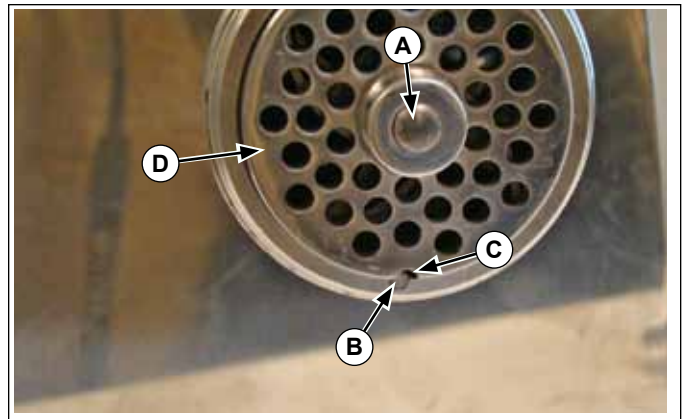

Figure 3. Grinder Plate, Cutout, Locating Pin and Blade Shaft
3. Remove the grinder plate (D) from the blade shaft (A). See Figure 3.
7. Place the grinder plate (D) onto the blade shaft (A) so that the cutout (C) slides over the locating pin (B). See Figure 3.